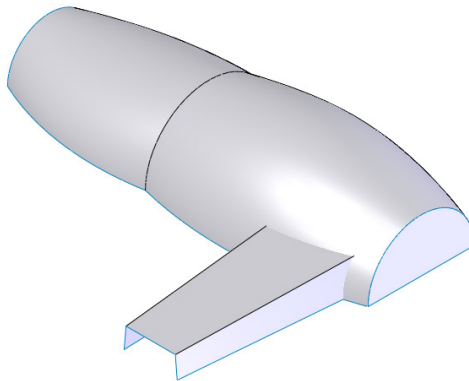

Figure 1-145 Resultant lofted surface
6. Create the lofted surface by using the **Lofted Surface** tool, as shown in Figure 1-145.